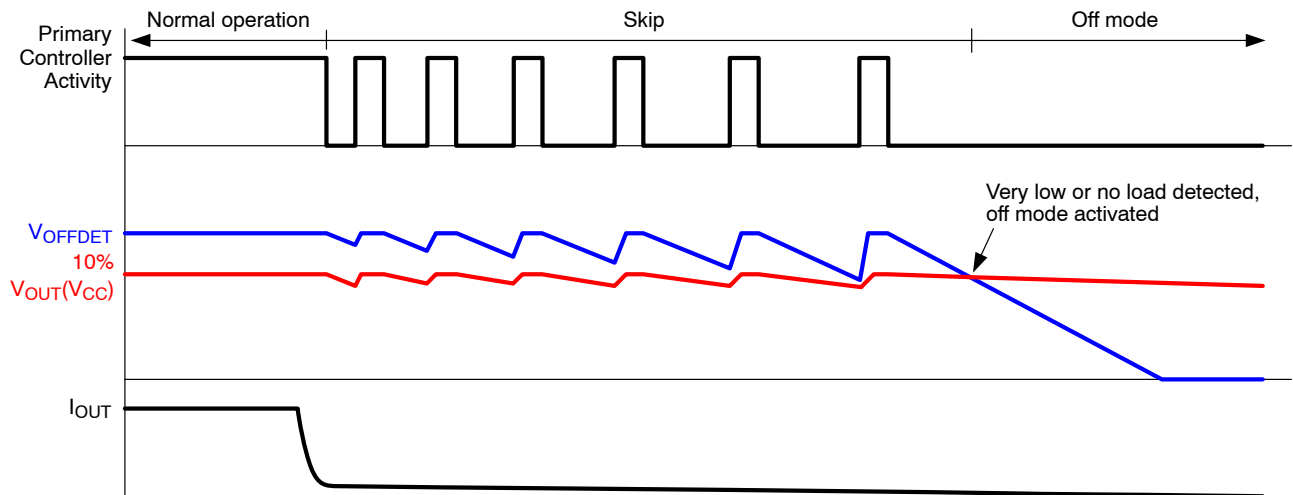

Figure 27. OFF Mode Detection
The OFF mode detection is based on comparison of output voltage and voltage loaded with fixed resistances (D2, C2, R7 and R8). Figure 27 shows detection waveforms. When output voltage is loaded with very low current, primary controller goes into skip mode (primary controller stops switching for some time). While output capacitor C1 is discharged very slowly (no load condition), a fixed load R7 and R8 discharges the capacitor C2 faster than load current discharges output voltage on C1.
While both C1 and C2 are discharged during the missing cycles, C2 discharge will be faster than C1 without output current, V_{OFFDET} drops below $V_{OFFDETTH}$ and OFF mode is detected (7). This situation is shown in Figure 27 in detail. When OFF mode is detected, current into ONOFF pin stops to flow (7) and voltage at primary REM pin increases over threshold level that forces primary controller into OFF mode. Internal pull-up current I_{BIASV} is switched on (7), VSNS pin voltage increases (thanks to I_{BIASV}) and voltage amplifier sinks reduced current (at time (8)), when VSNS is higher than V_{REF} (9), to keep primary FB voltage below switching level until REM pin voltage is high enough. I_{BIASV} current stops when VSNS voltage drops below 90% of V_{REF} .